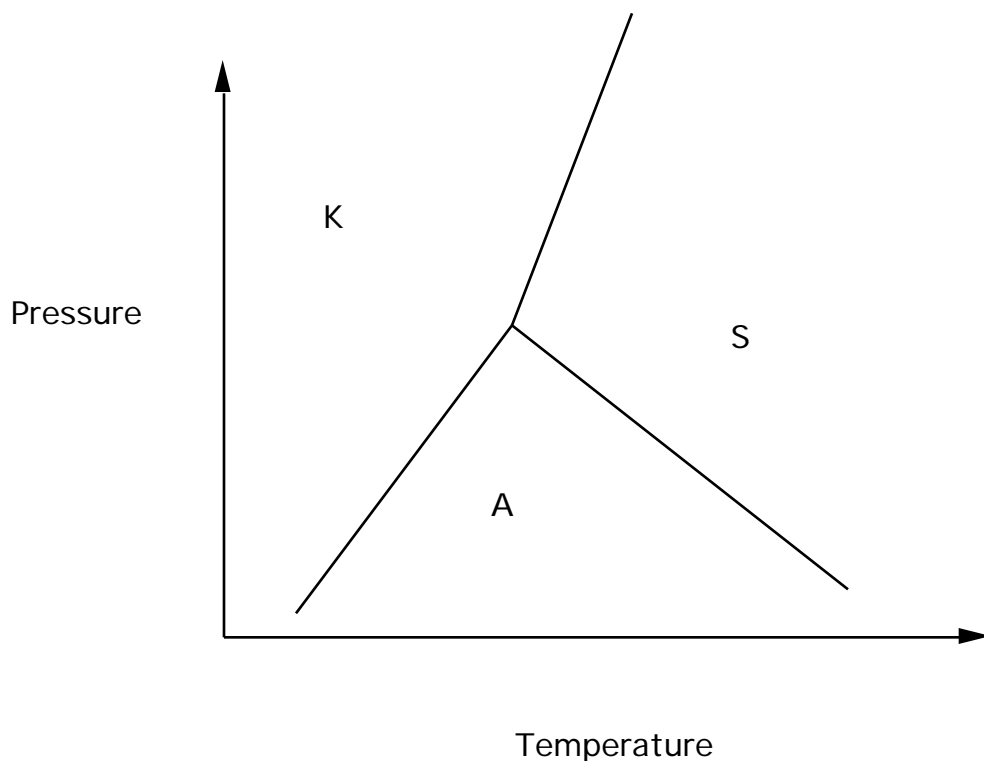

Figure 4.
Kyanite (K), Sillmanite (S), and Andalusite (A) are three polymorphs of Al_2SiO_5 (Figure 4).